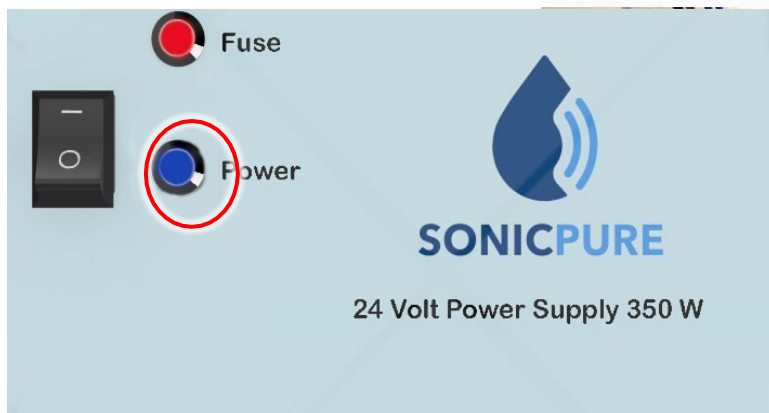
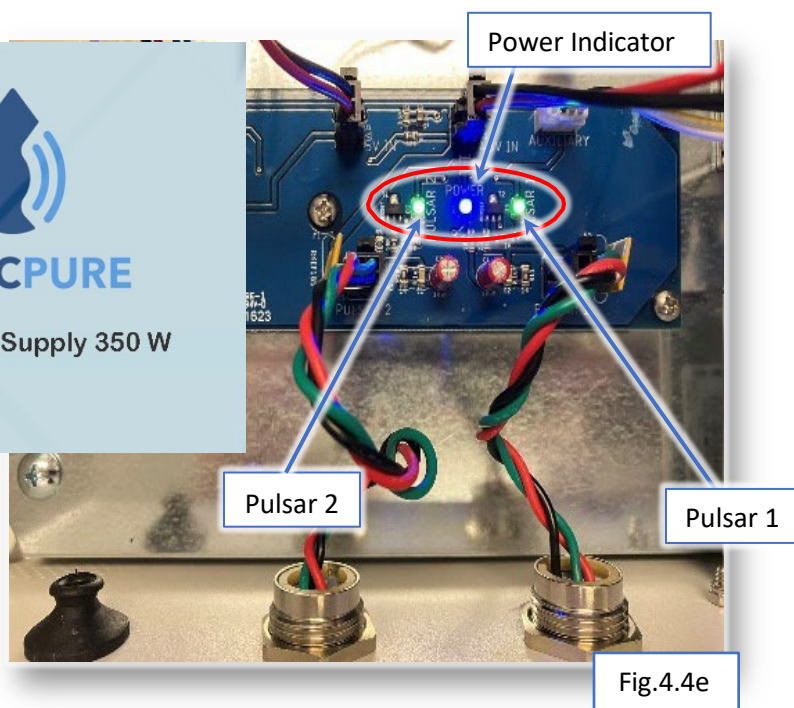

Fig.4.4d
Fig.4.4e
Verify ONLY Power LED is lit on Power Supply (Fig. 4.4d) and blue Power Indicator LED is lit on distribution board inside DC Power Hub. (Fig. 4.4e) If Fuse LED is on, contact customer support.
8. Verify communication LEDs are operational per system demands. Pulsar 1 LED will light for single Pulsar head system. Pulsar 1 and 2 LEDs will light for dual Pulsar head system. (Fig. 4.4e)